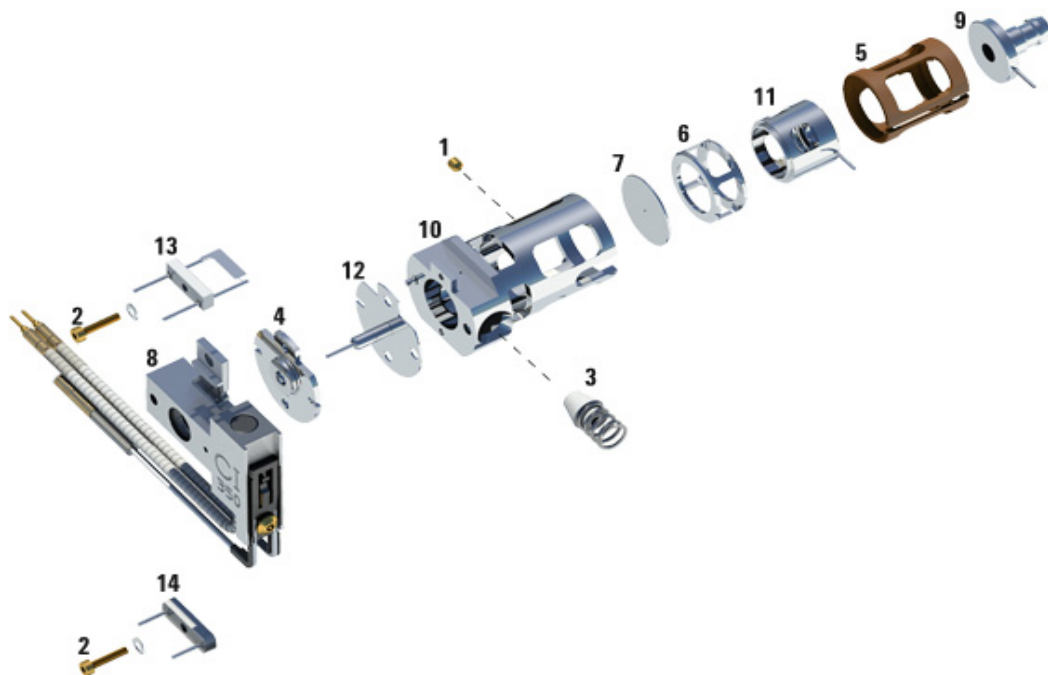

Figure 28 Disassembling the CI ion source
- 3 Separate the source heater assembly from the source body. The source heater assembly includes the source heater, repeller, and related parts. (See Figure 28.)
- 4 Disassemble the repeller assembly by removing the ceramic insulator from the repeller. (See Figure 28.)
- 6 Pull the lenses out of the source body and separate the lens insulator, ion focus lens, drawout cylinder, drawout lens, and entrance lens. (See Figure 28.)
Table 20 Parts list for the CI ion source (Figure 28)
Table 20 Parts list for the CI ion source (Figure 28) (continued)